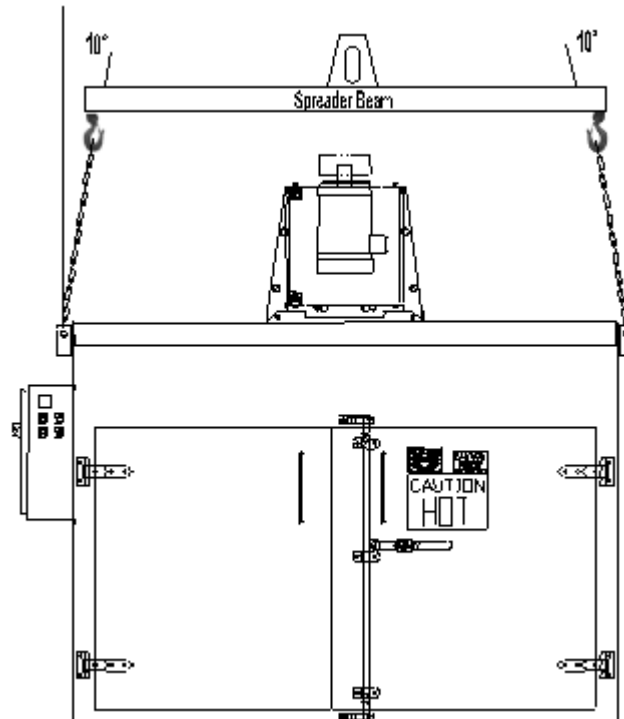

Figure 1: Typical Rigging
Special care must be taken in handling this equipment due to its configuration, size and weight. Lifting lugs are provided at the (4) top corners on most models. It is important to note that rigging cables or chains must not exceed a maximum angle of 10 degrees from vertical (see Figure 1). Use a spreader beam, or rigging of adequate length, to avoid damage to the equipment. Please refer to any assembly drawings for specific assembly and rigging instructions.